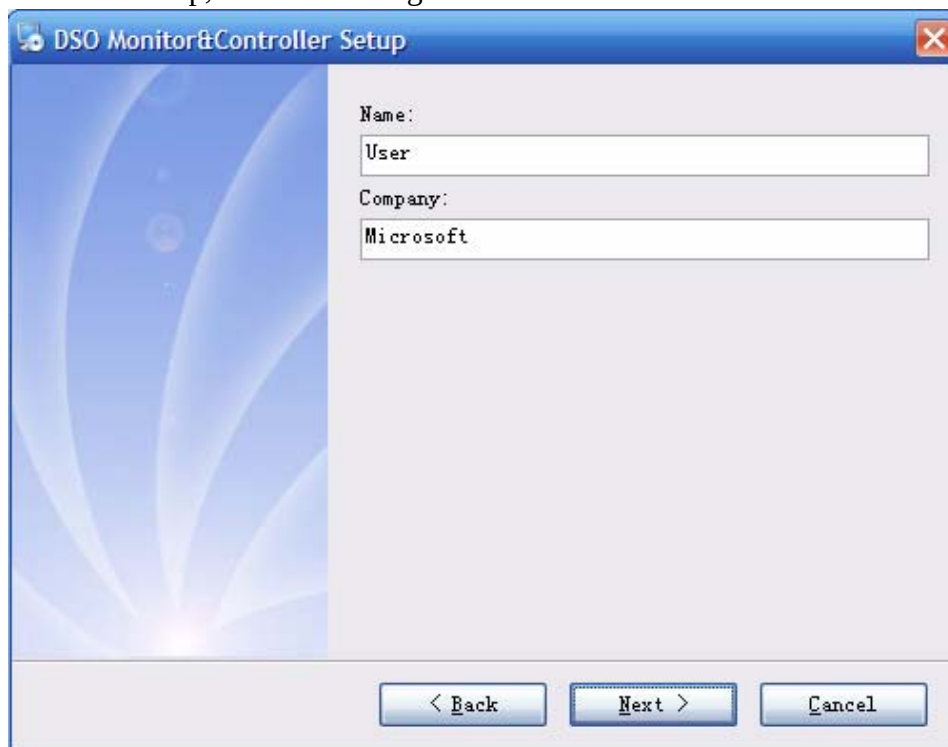
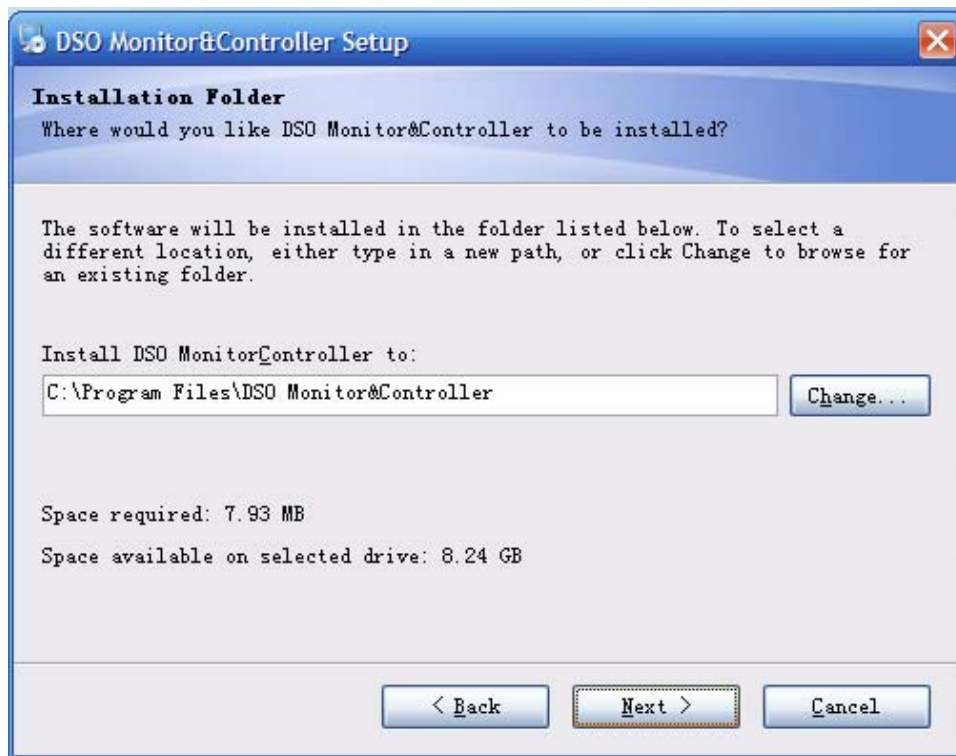
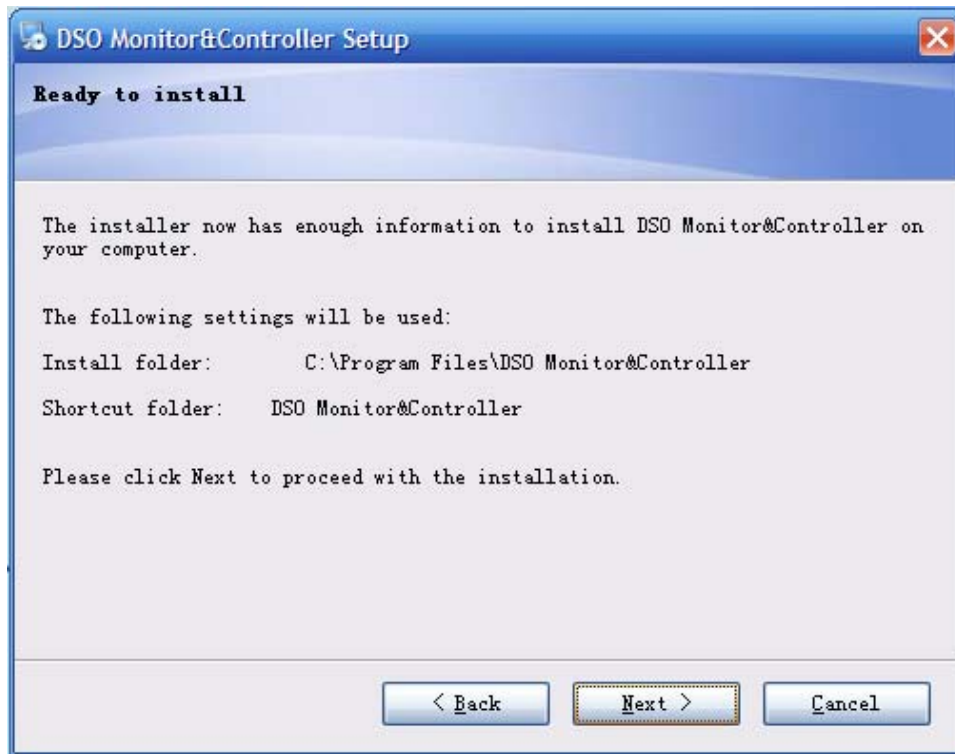
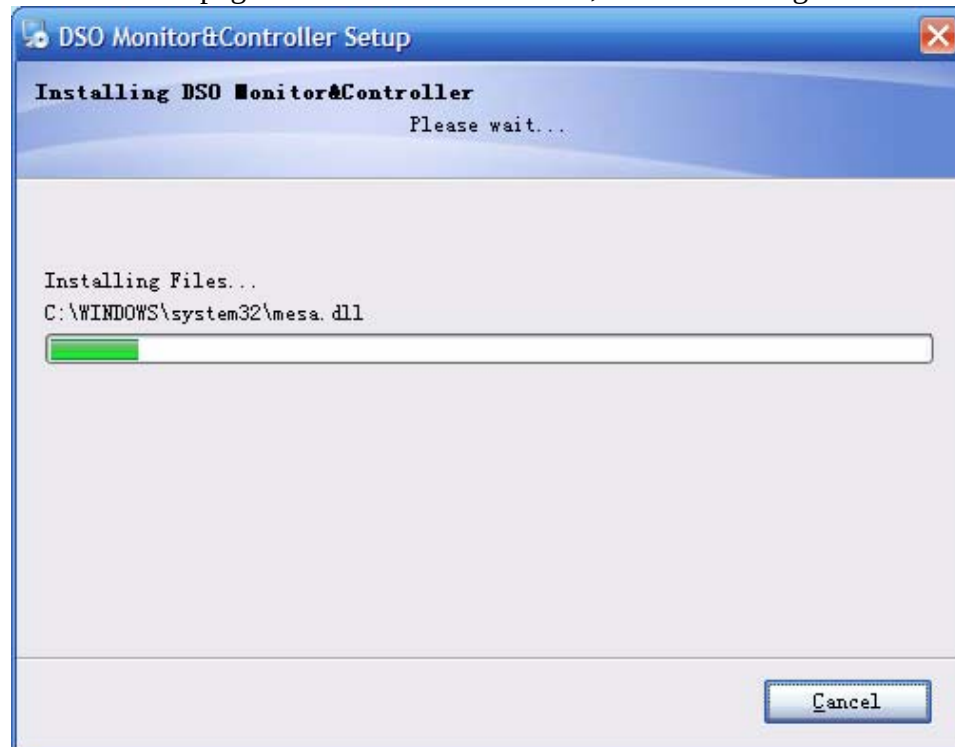

Figure 1-3
Figure 1-4
Figure 1-5
Figure 1-6
Step three : Read the prompt in Figure 1-2 then click the **NEXT (N)** button to enter the next step, as shown in Figure 1-3.
Step four : In Figure 1-3, enter your user name and company name, then click the **NEXT (N)** button to enter the next step, as shown in Figure 1-4
Step five : In Figure 1-4, click the **CHANGE (H).....** button to specify the installation path of the software, then click NEXT. You can also click NEXT directly to use the default path. Enter the screen shown in Figure 1-5.
Step six : In Figure 1-5, after checking that the message is correct, click **NEXT (N)** to enter the page for automatic installation, as shown in Figure 1-6.